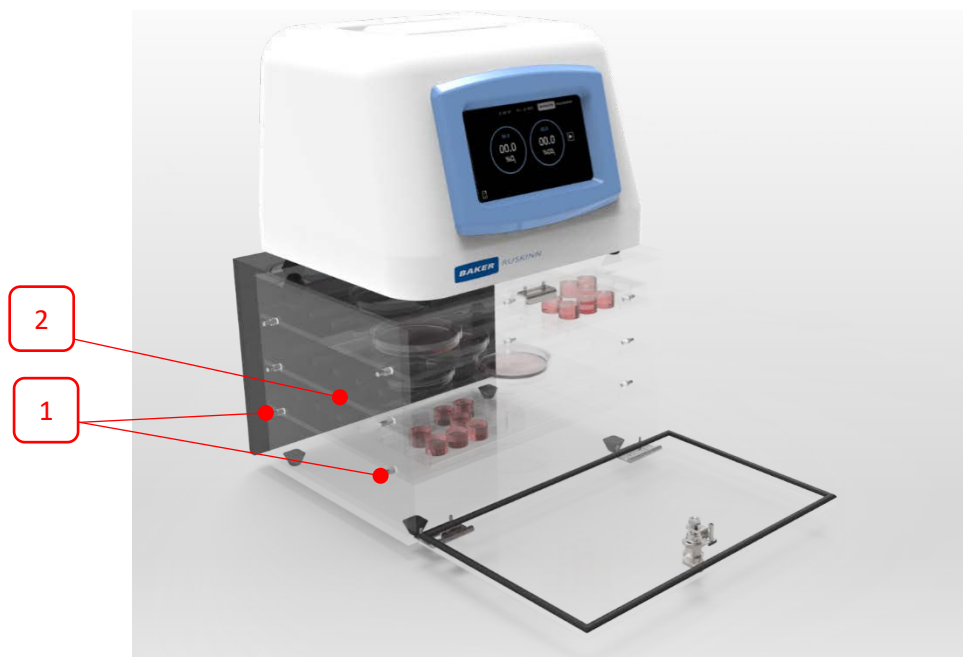

Figure 9: Shelf removal and installation
To remove a shelf (2 in Figure 9), open the door, lift the shelf carefully off the shelf brackets (1) and withdraw it from the Cell Culture Chamber.